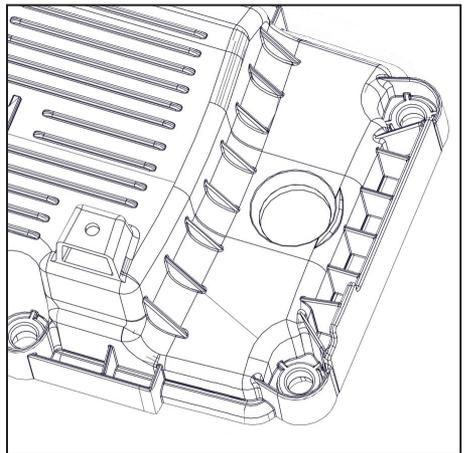

**Figure 13 — Modifying the Valve Cover**
*When modifying the valve cover, it is important to remove only the webs indicated and not cut past the face shown in Figure 13. Cutting into the main valve cover body may compromise the O-ring sealing the valve cover to the cylinder head.*
- Using a die grinder or cutoff wheel, remove the wire harness mounting tabs on the driver side valve cover (Figure 13).